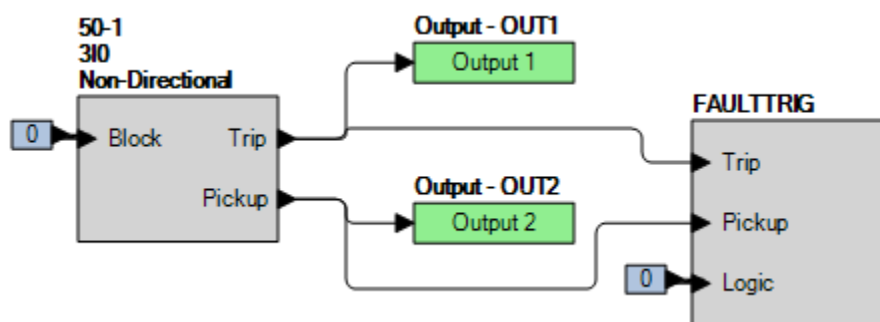

Figure 63-2. BESTlogicPlus Settings (3I0 Mode)
- Step 2: Use *BESTCOMSPi* to configure the *BESTlogicPi* programmable logic shown in Figure 63-2.
- Step 4: Prepare to monitor the 50-1 function operation. Operation can be verified by monitoring OUT2 (see Figure 63-2).